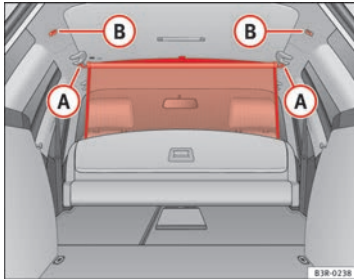

Fig. 119 Retainers for the net partition
- Engage the ends of the bar in the retainers **(B)** ⇒ Fig. 119.
- Engage the ends of the bar in the retainers **(A)** ⇒ Fig. 119.